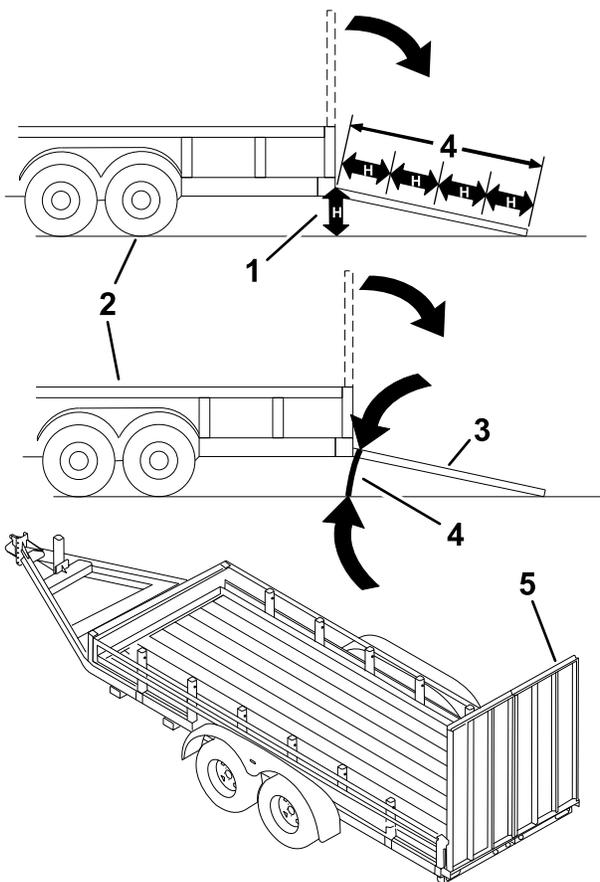

Figure 59
**Loading a machine onto a trailer or truck increases the possibility of tip-over and could cause serious injury or death (Figure 59).**
3. Lower the ramp (Figure 59).